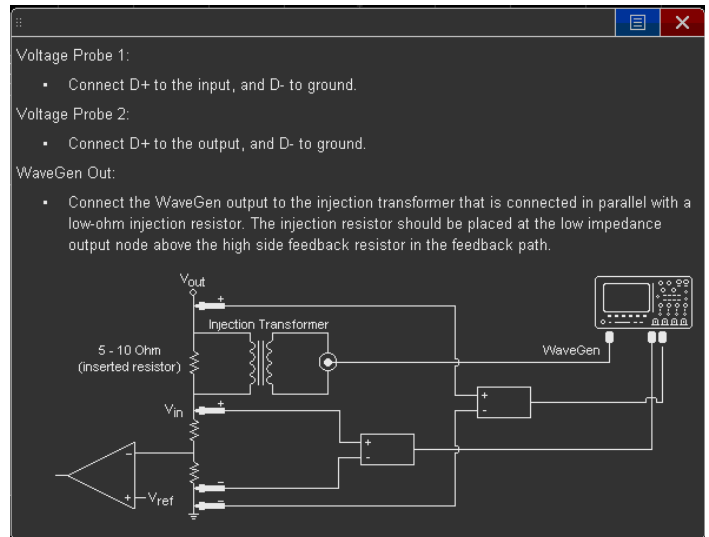

Figure 38. Connections diagram for a Control Loop Response measurement.
4. To view the connections diagram shown in Figure 38, touch the blue “?” symbol; then make the following connections: